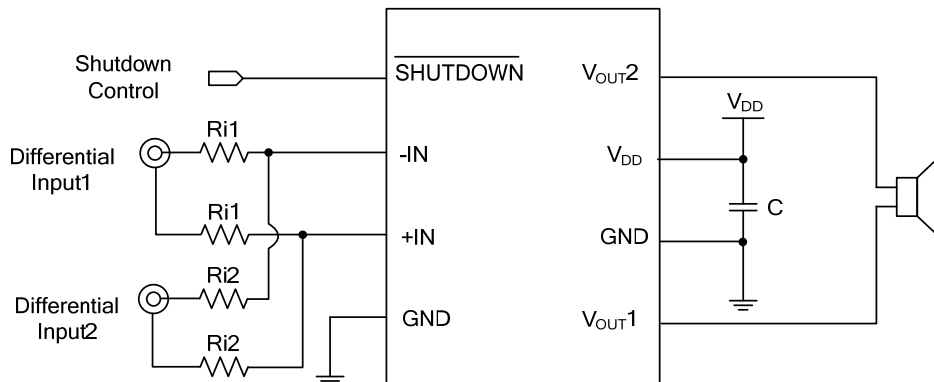

Fig. 5 Dual Differential Input Configuration
The **M4670** can be used for amplification of multiple audio sources. The application configuration as shown in Fig. 5. Each input gain can be independently set the maximum use of each input and the design equation (2) on the  $R_i$  resistors of flexibility. Input capacitance can be used with one or more than one source, as well as the different frequency response according to the source or DC voltage, if necessary from the source block.